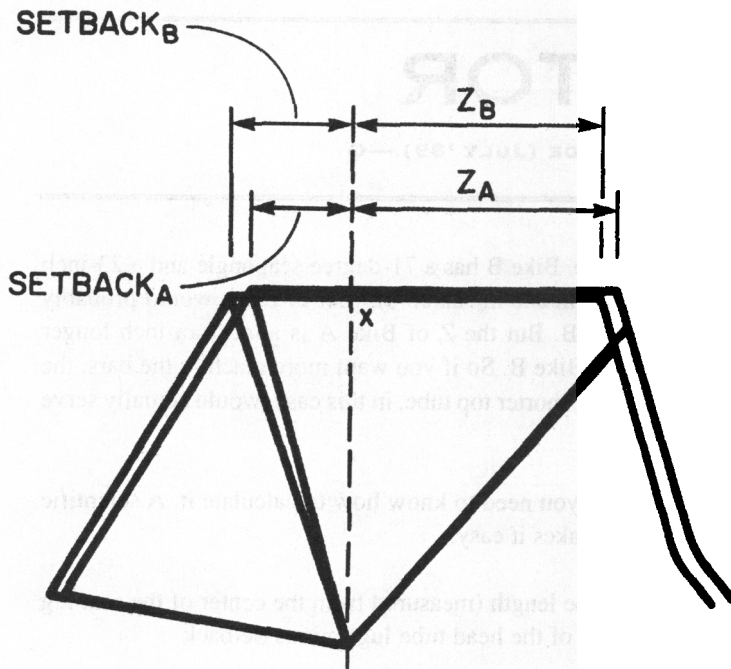

FIGURE 2
**A** simple example using two imaginary 20-inch mountain bike frames, which we'll call **A** and **B**, illustrates the meaning of **Z** (see Figure 2). Bike **A** has a 74-degree seat angle and a 22.5-